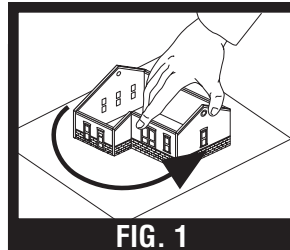
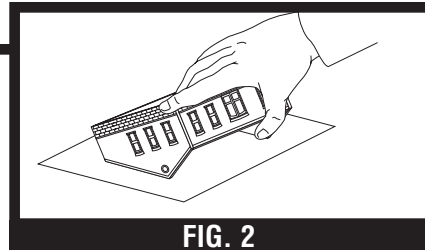

FIG. 1
FIG. 2
3. Sand bottoms of assembled walls over sandpaper in circular motion to make sure structure sits level (FIG. 1). Turn building upside down and sand top edges of both slopes to ensure that roof fits without gaps (FIG. 2).